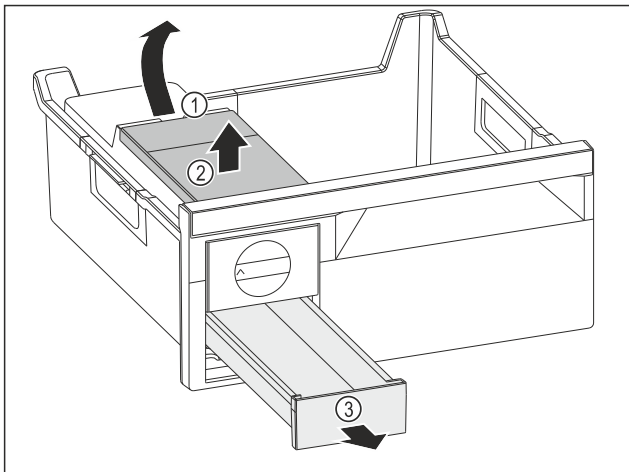

Fig. 144
- ▶ Removing the water tank: Lift the water tank by the recess Fig. 144 (1).
- ▶ Remove the water tank Fig. 144 (2) upwards.
- ▶ Remove the ice cube drawer Fig. 144 (3) to the front.